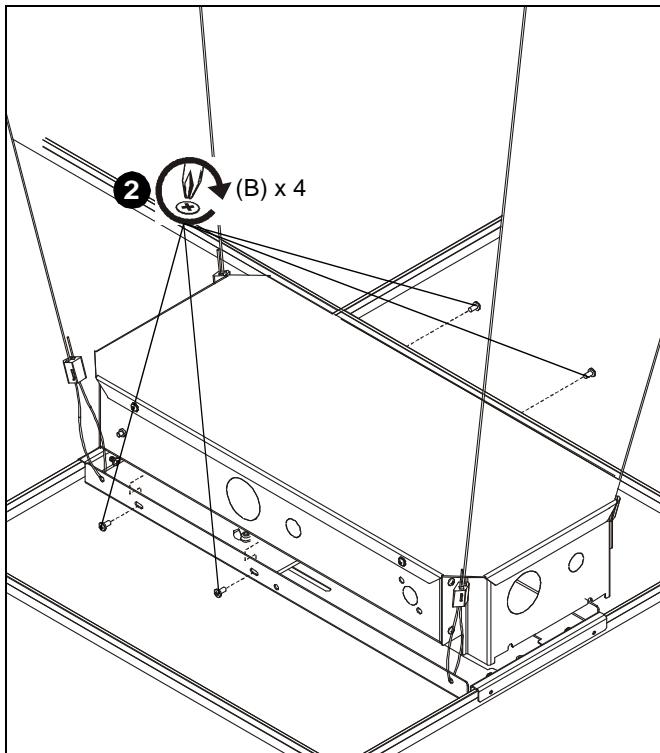

Figure 1
2. Install box (A) with four #10 X 3/8" Phillips tapping screws (B) (See Figure 1). Tighten securely.